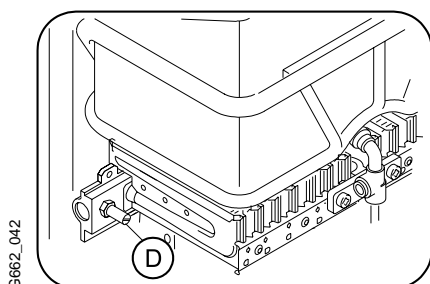

Fig. 9
- h) Loosen screw D and connect the pressure gauge to the test point, see fig. 9.